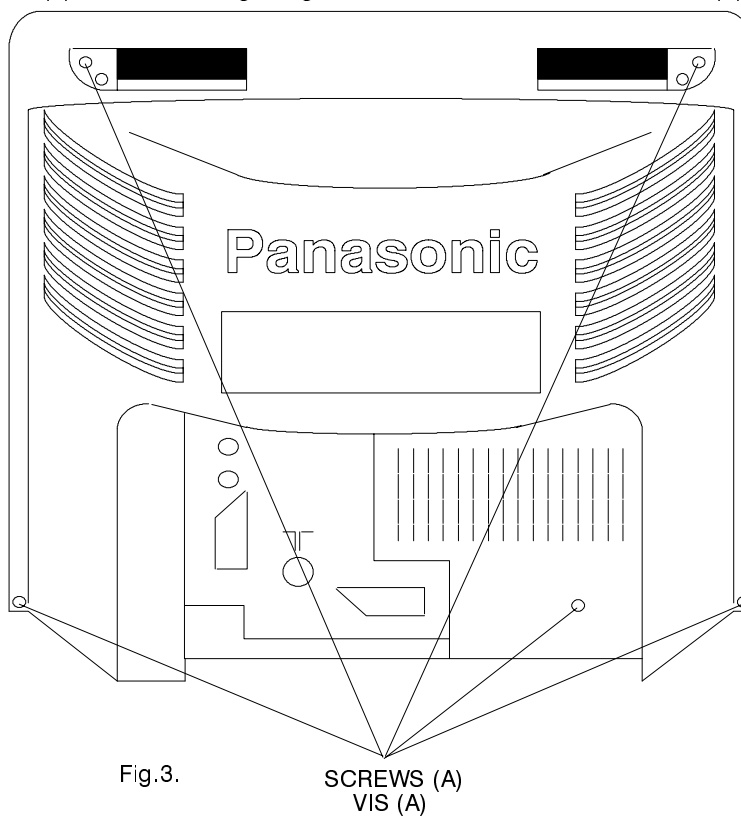

Fig.3.
1. Remove the 5 screws (A) as shown in Fig.3/Fig.4.
1. Retirer les 5 vis (A) comme sur la Fig.3. / Fig.4.